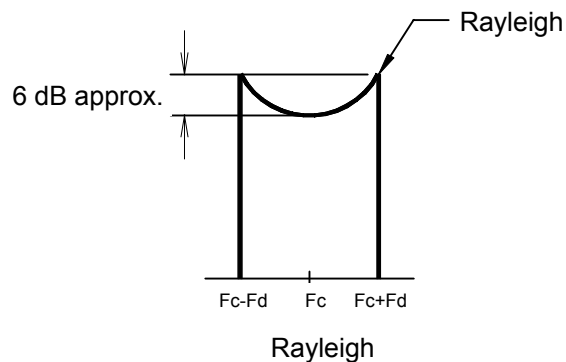

Figure 11-2 Spectrum of Rayleigh-fading carrier (CW)
Figure 11-2 shows the averaged spectrum of Rayleigh-fading carrier (CW). This option provides the fading generator with 12 Paths and outputs the sum of signals in each path.